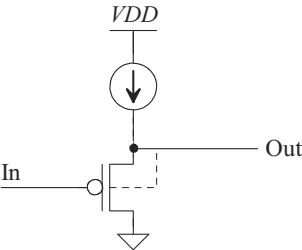

Figure 21.60 Gain of an SF with and without body effect for Problem 21.11.
- 21.11** Show, using SPICE simulations and an ideal current source of $10\ \mu\text{A}$ (device size from Table 9.2), the difference in the voltage gains with and without body effect for the circuit seen in Fig. 21.60.